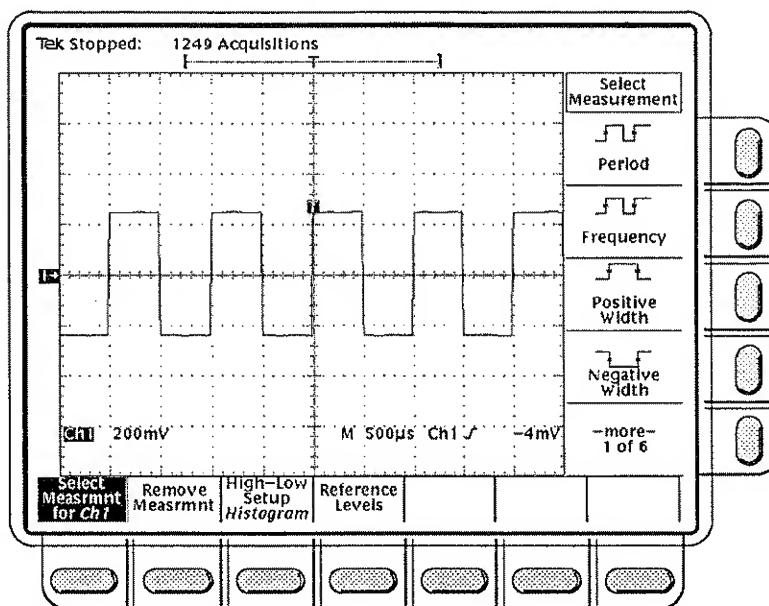

Figure 3-30: Measure Menu
- ☐ **Step 2:** Press the **MEASURE** button to bring up the Measure menu (Figure 3-30).